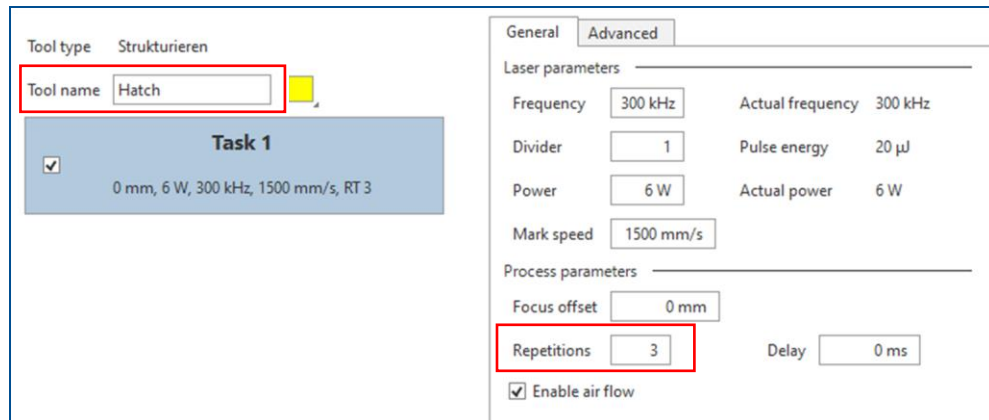

Fig. 20: *Repetitions* for the tool *Hatch*
2. Create copies of the *Task* in the tool *Hatch* (minimum two). The number of copies equals the number of *Repetitions* in the initial *Task* (see figure 20). Set **only one Repetition** for each *Task* (in this example 3 *Tasks* with 1 *Repetition* each).